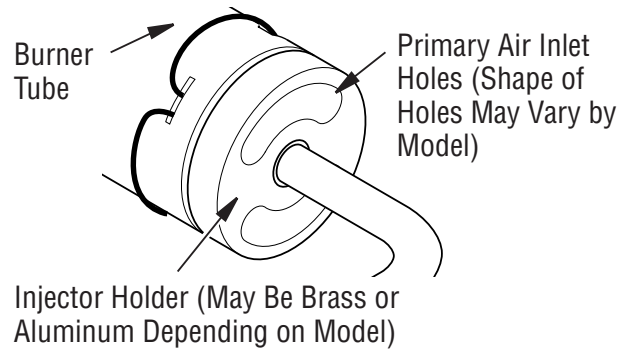

Figure 47 - Injector Holder On Outlet Burner Tube
2. Inspect burner, pilot and primary air inlet holes on injector holder for dust and dirt (see **Figures 47 and 48**).